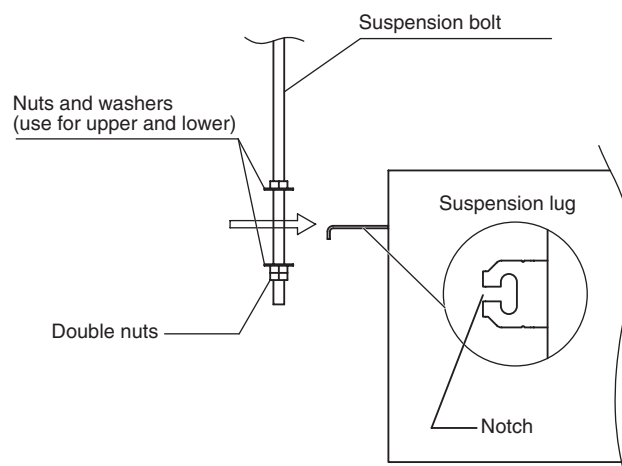

Fig. 2-110
- (3) Thread the 3 hexagonal nuts and 2 washers (field supply) onto each of the 4 suspension bolts (Figs. 2-110 and 2-111). Use 1 nut and 1 washer for the upper part, and 2 nuts and 1 washer for the lower part, so that the unit will not fall off the suspension lugs.